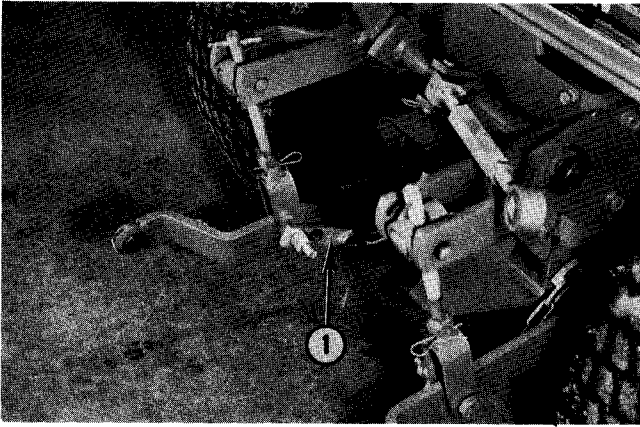

Fig. 55 — Check Chains
3. Place Tractor 3-point hitch check chains in rear hole, Fig. 55.